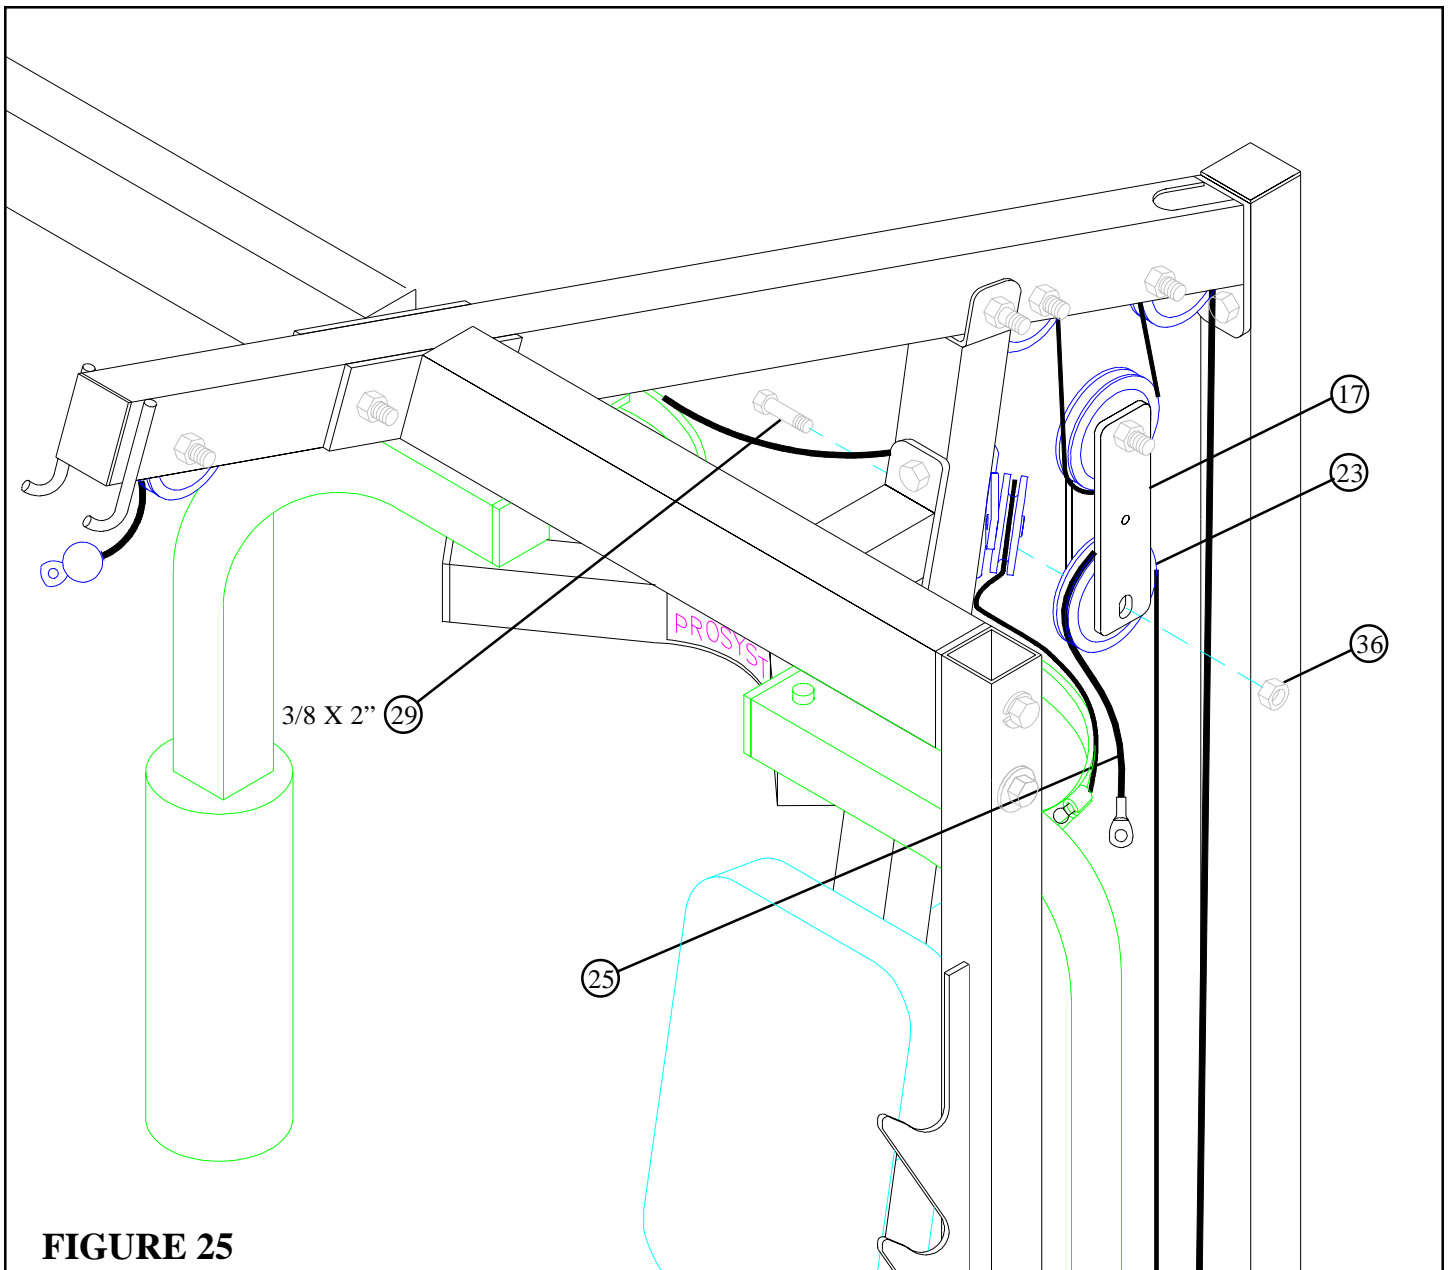

**FIGURE 24**
- Route the CABLE (25) under the 3-1/2" PULLEY in the slot on the FRONT UPRIGHT (1) and around the 3-1/2" PULLEY shown on FIGURE 24. (NOTE: Make sure CABLE (25) is underneath the CABLE RETAINING CLIP.)
- **SECURELY** assemble one 3/8 X 2-3/4" BOLT (28) to the UPRIGHT FRAME (1) using two 3/8" WASHERS (31), and one 3/8" LOCK NUT (36). (NOTE: Make sure CABLE is between the 3/8 X 2-3/4" BOLT and the 3-1/2" PULLEY.)